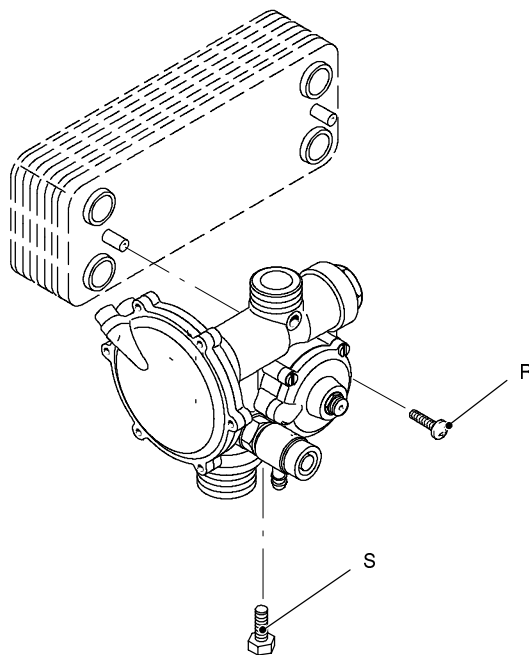

fig. 34
- 7 Unscrew the screw *R* that holds the d.h.w. heat exchanger, the bolt *S* that holds the valve to the frame (fig. 34) and remove the valve.